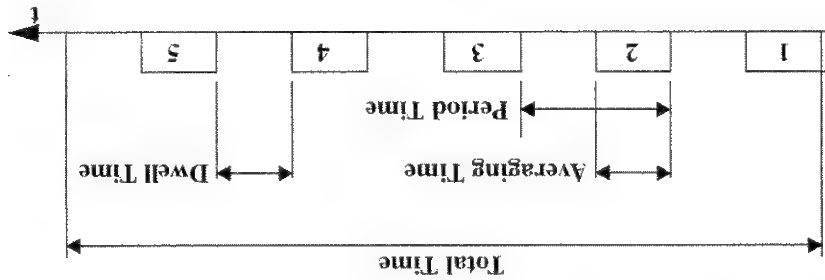

Figure 122 Example Stability Application
- The averaging time is less than the period time, there is a dwell time between the commencement of each power measurement, as shown in Figure 122. This can happen because: